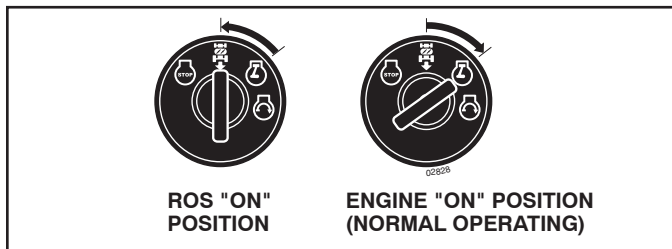

Fig. 23
USING THE REVERSE OPERATION SYSTEM (See Fig. 23)
- When mowing large areas, start by turning to the right so that clippings will discharge away from shrubs, fences, driveways, etc. After one or two rounds, mow in the opposite direction making left hand turns until finished (See Fig. 23).